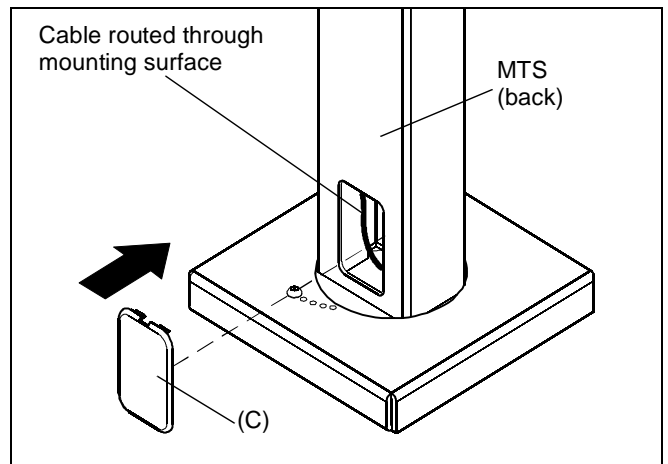

Figure 9
2. If wires will be routed through post and down through mounting surface, place cable management cover (C) over cable management hole. (See Figure 9)